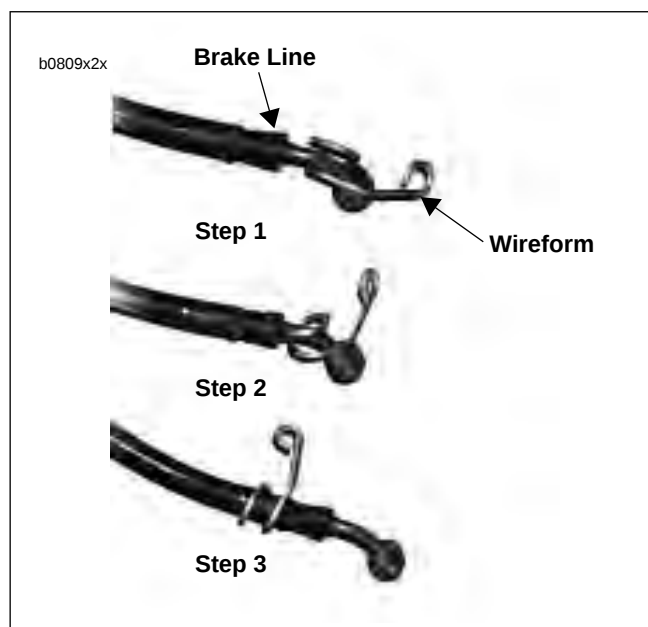

Figure 2-45. Wireform Installation
1. See Figure 2-45. Install wireform to rear brake line as shown in figure.